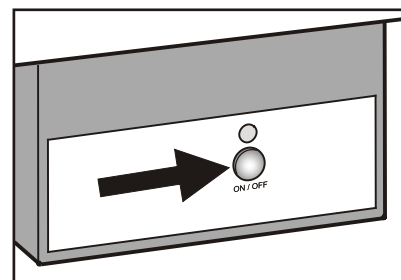

Figure 21
- Press the button on the Ice Maker housing (**Figure 21**) for approx. 3 seconds. The LED above the button starts blinking.
*The Ice Maker can also be turned on and off by pressing the "On/Off" button at the Ice Maker housing for approximately 1 second (**Figure 21**).*